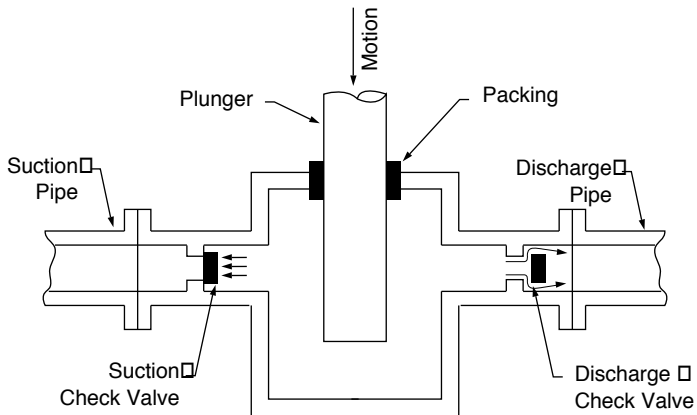

FIGURE 70. Liquid End of a Reciprocating Pump During the Discharge Stroke
- the withdrawal movement must be stopped before the end of the plunger gets to the packing. The plunger movement is then reversed and the discharge stroke portion of the pumping action is started (Figure 70).